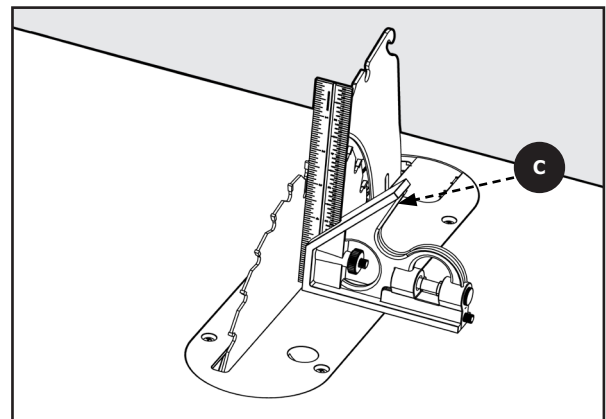

Figure 27
3. Using a Combination Square **C**, check the angle of the Blade Face to the Table, as shown in Figure 27. Confirm the blade is at 90° to the table.